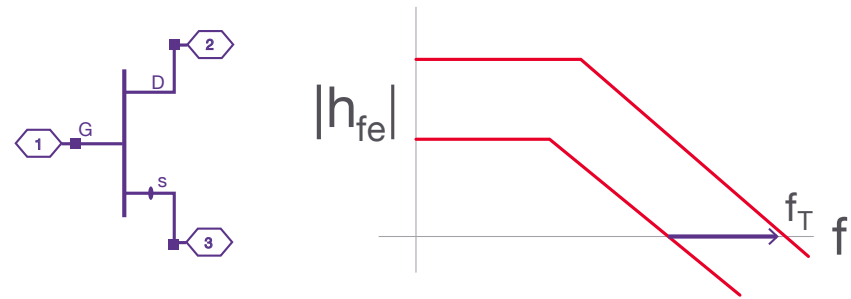

Figure 8. High transistor gain
Using higher frequency transistors complicates the design flow for designing stable circuits. In today's circuits, the gain is higher due to increasing transistor f_T s, or the frequency at which unity current gain goes to zero, as shown in Figure 8. The additional gain is necessary at lower frequencies to achieve gain at 30, 60, or 90 GHz. Tight integration along with feedback can cause instability problems at lower frequencies from the significant increases in gain. The undesired output-input feedback is prevalent because circuits are denser and resonate easily with signals that have smaller wavelengths. Electromagnetic (EM) effects such as couplings and reflections can cause instability, especially in today's advanced packaging and assembly approaches.